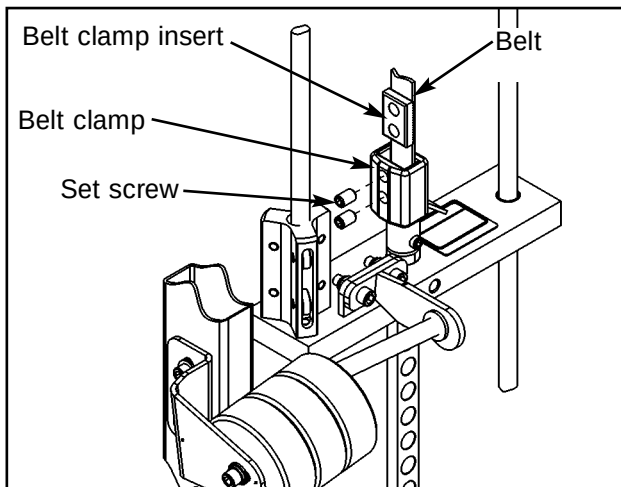

Figure 8
F. Pull belt tight and secure belt to clamp with the two set screws. See Figure 8.